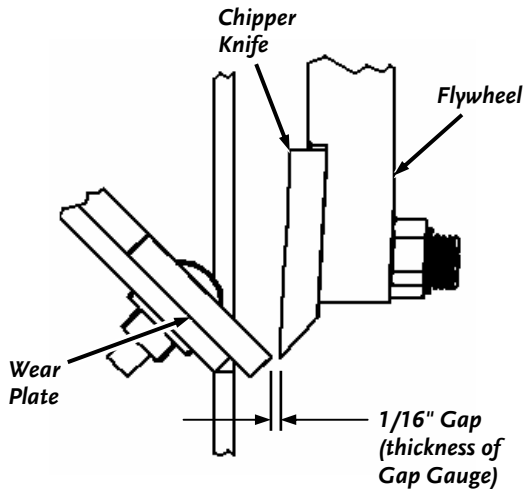

Figure 43
**NOTE:** See **Figure 43** for a more detailed look at the relationship of the Knife to Wear Plate.